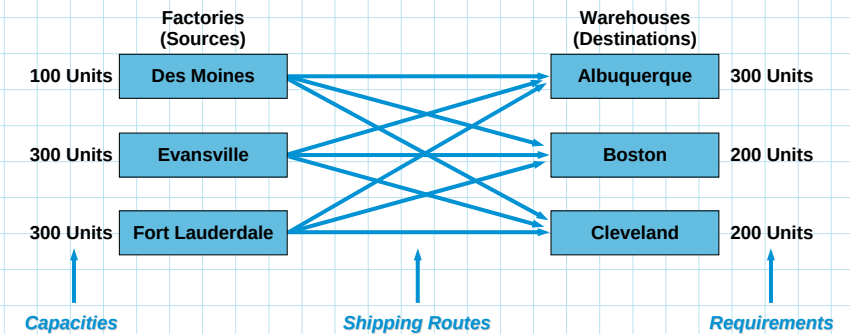

Figure 10.1
- Estimates of the monthly production capacity of each factory and the desks needed at each warehouse are shown in Figure 10.1